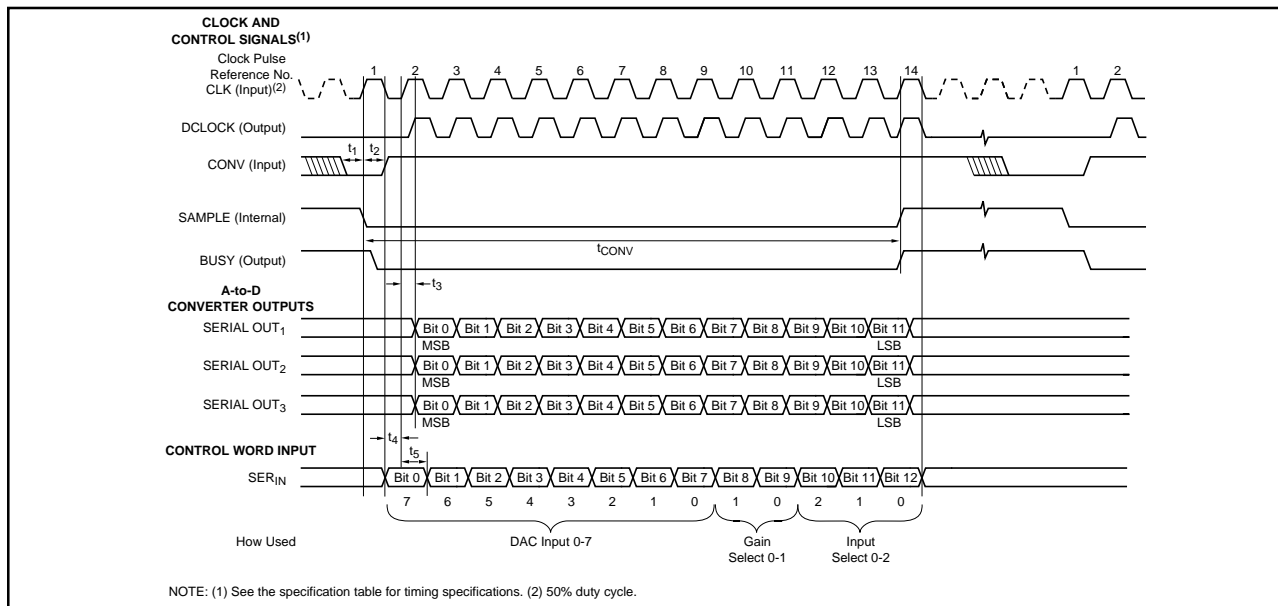

FIGURE 2. Timing Diagram.
The ADS7833 contains seven sample holds. Five of them (SH_1 through SH_5) sample simultaneously and have their sample/hold timing internally synchronized. (The timing is shown in Figure 2).
An 8-bit DAC provides 256 output voltage levels from 0V to 2.5V (see Table V for input/output relationships). The DAC is controlled by the DAC Input portion of the input setup word. The DAC Input portion of the word is strobed into the DAC at the end of the conversion cycle (14th CLK pulse in Figure 2).
Sampling and conversion is controlled by the CONV input (see Figure 2). The ADS7833 is designed to operate from an external clock supplied at the CLK input. This allows the conversion to be done synchronously with system timing so that transient noise effects can be minimized. The CLK signal may run continuously or may be supplied only during convert sequences. The BUSY and DCLOCK signals are internally generated and are supplied to make interfaces with microprocessors easier (see Figures 2, 4, and 6).
Configuration information for these parameters is contained in the SER_{IN} word (See Figure 2). As one conversion is taking place, the configuration for the next conversion is being loaded into the buffered Input Setup Register via the SER_{IN} word. Table I shows information regarding these parameters.
NOTE: (1) See Figure 2. "Clock Pulse Reference No."
The PGA gain is determined by the Gain Select portion (bits 8 and 9) in the SER_{IN} word (see Figure 2). There is one gain input that sets the same gain for all three PGAs. The gain values and allowable full scale inputs are shown in Table II.
The Input Select portion of the SER_{IN} word (bits 10, 11 and 12) (see Figure 2) are decoded and determine the open/closed condition of the multiplexer switches. This in turn determines which input signals are connected to the sample holds and which sample holds are connected to the PGAs/ADCs.
The value of the DAC output voltage is determined by the DAC Input portion of the SER_{IN} word (bits 0 through 7—see Figure 2). The 8-bit DAC has 256 possible output voltages from 0V to +2.49V. The value of 1 LSB is 0.0098V.